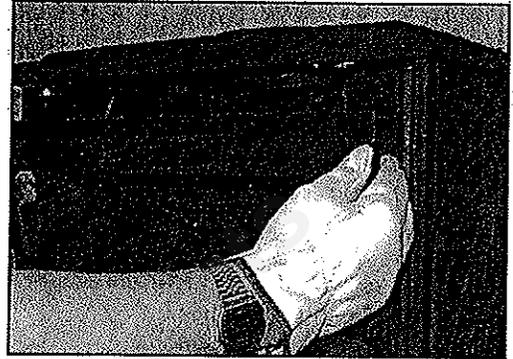

Figure 15
3. Remove the Glass Frame Assembly by pulling the Latch Releases forward and upward. See Figure 14. Lift the Glass Frame Assembly up, sliding the [3] tabs at the bottom out of the slots. See Figure 15.